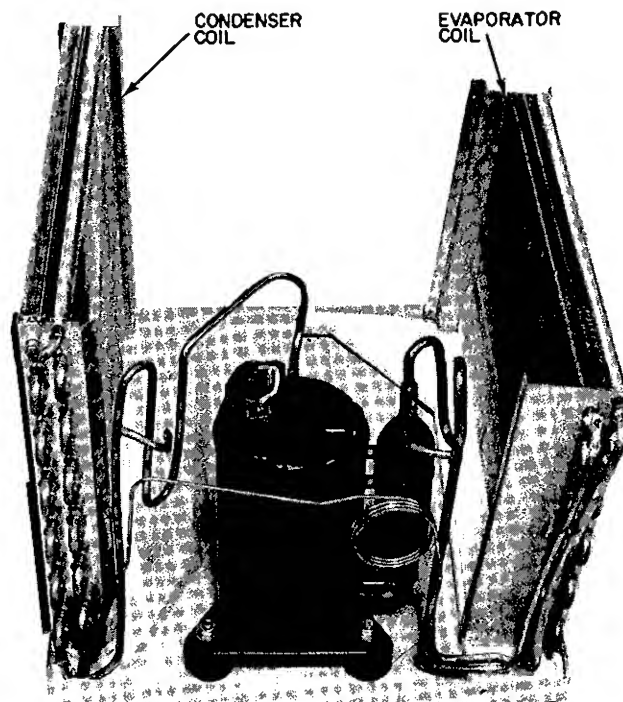

Fig 24 — Evaporator and Condenser Coils
- 20 **Evaporator and Condenser Coils** — See Evaporator and Condenser Coils in Fig 24. These coils have copper tubing. The interconnecting tubing is designed as an integral part of the coils to make servicing easier.